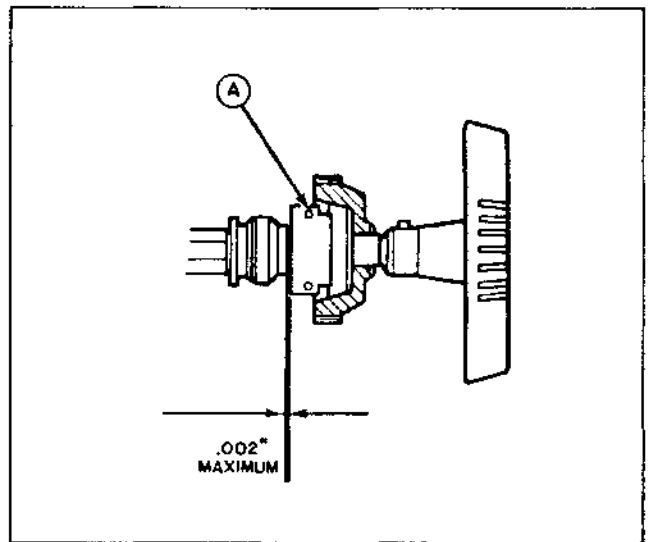

Figure 3-21. Platen Knob End Play Adjustment
3.4.1.2.4 **Platen Knob End Play.** Refer to Figure 3-21. End play should be  $.002$  in. ( $.05$  mm) maximum, as shown. Adjust for proper clearance by loosening the setscrews in the platen release gear hub (A) and moving the hub. Retighten the setscrews.